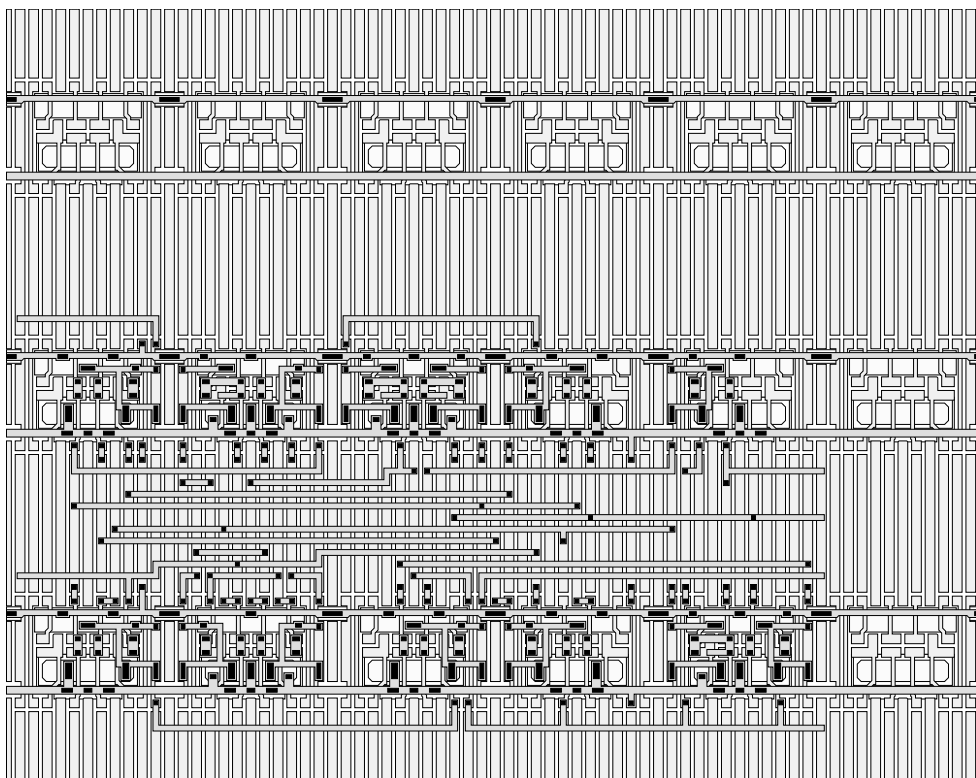

Figure 2.3: The single-layer *gatearray* image is a traditional row-based gate-array. The figure shows the same circuit as in the previous figures.
- gatearray* An old fashioned gate-array in a 4μ single metal layer CMOS process (figures 2.3 and 2.5).